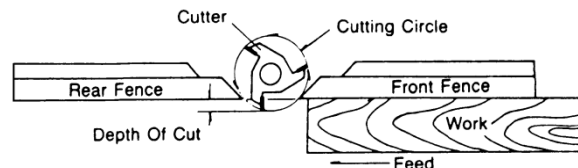

Figure 10
1. For most work, where a portion of the edge of the work is not touched by the cutter, both the front and rear fences are in a straight line, as shown in Figure 10.